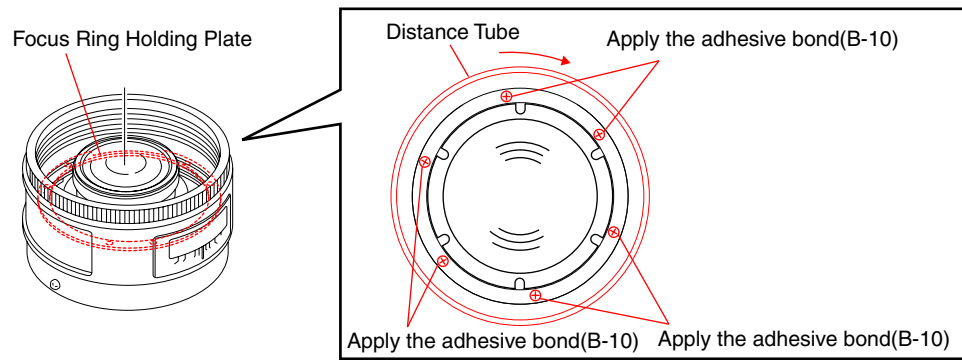

Fig.4-4-7
- 5) Loosen the three screws fixing the focus ring holding plate, and set the focus ring to the infinity stop position without moving the helicoid. (Refer to Fig.4-4-7.)